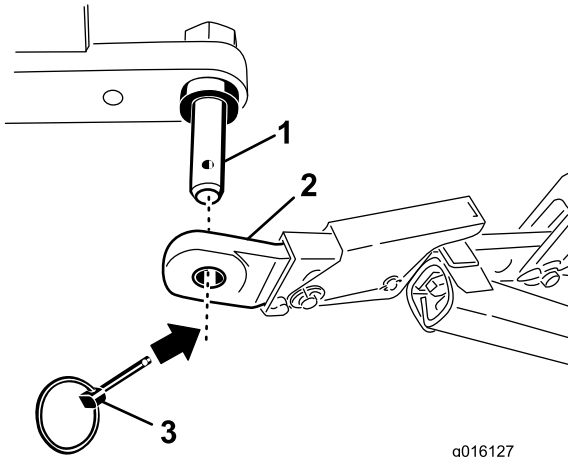

Figure 3
4. Secure the lower link arms to the aerator mounting pins with lynch pins (Figure 3).